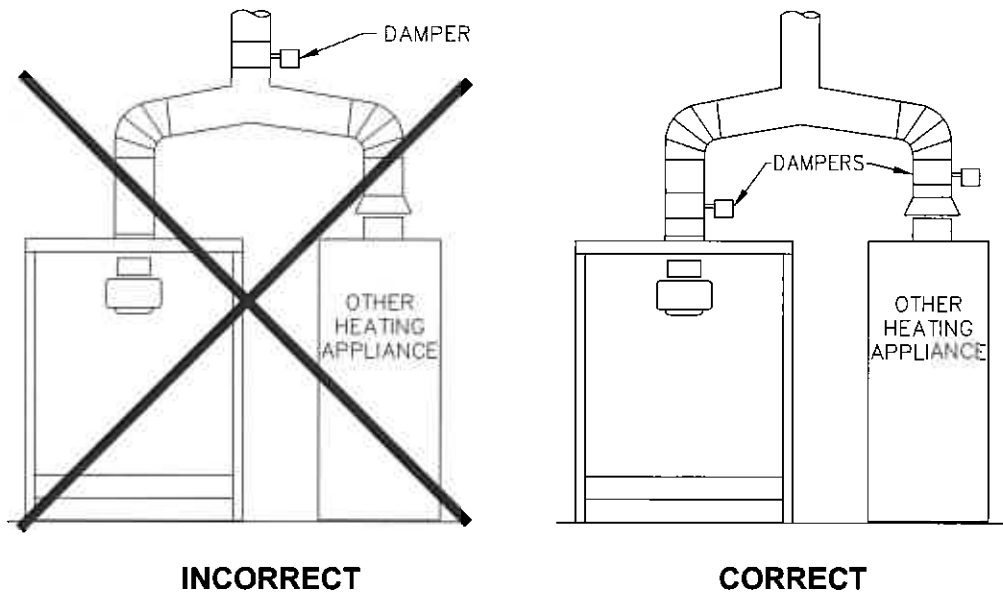

Figure 13: Venting Multiple Appliances
- 4—Do not use one vent damper to control two or more heating appliances. See figure 13.